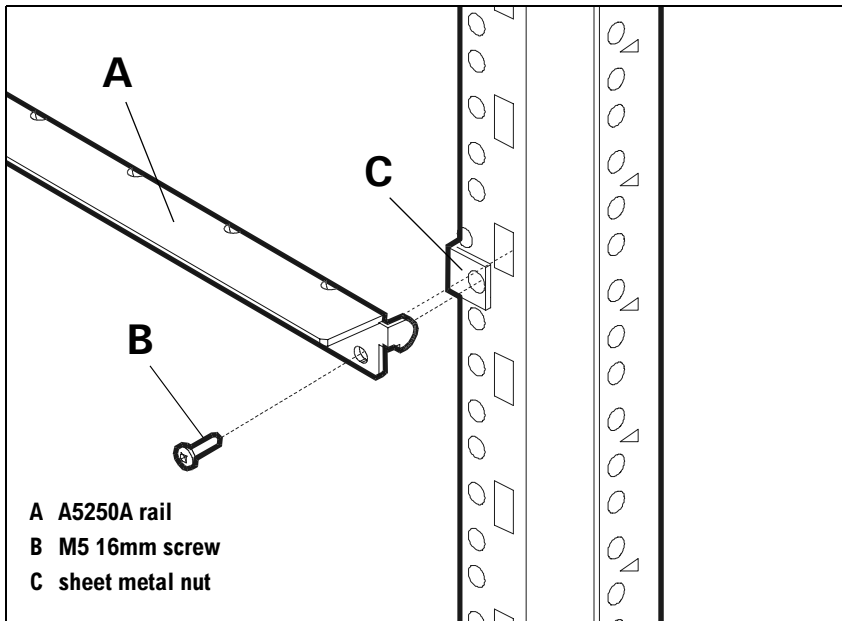

Figure 20 Rail Assembly – HP Legacy Racks
- a. Insert rail tabs into the bottom slots of the selected space on the front and back rack columns. Make sure that the rail is level and that rail holes align with the sheet metal nuts (C in Figure 20) previously installed.
- b. Insert a screw (B) through each rail end and sheet metal nut (C) on the rack column. Tighten screws with a Torx T25 screwdriver.